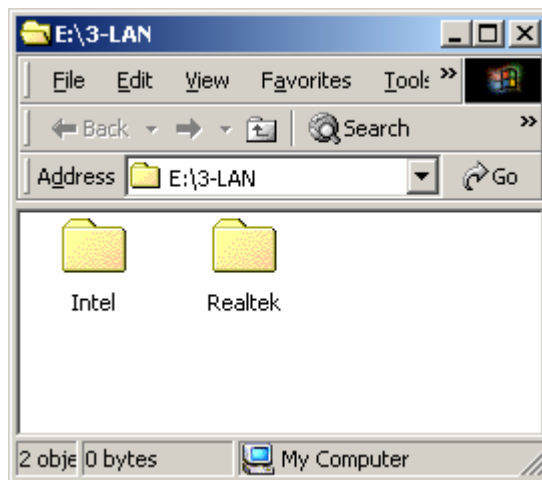

Figure 7-27: LAN Window
Step 2: A new window opens (**Figure 7-27**).